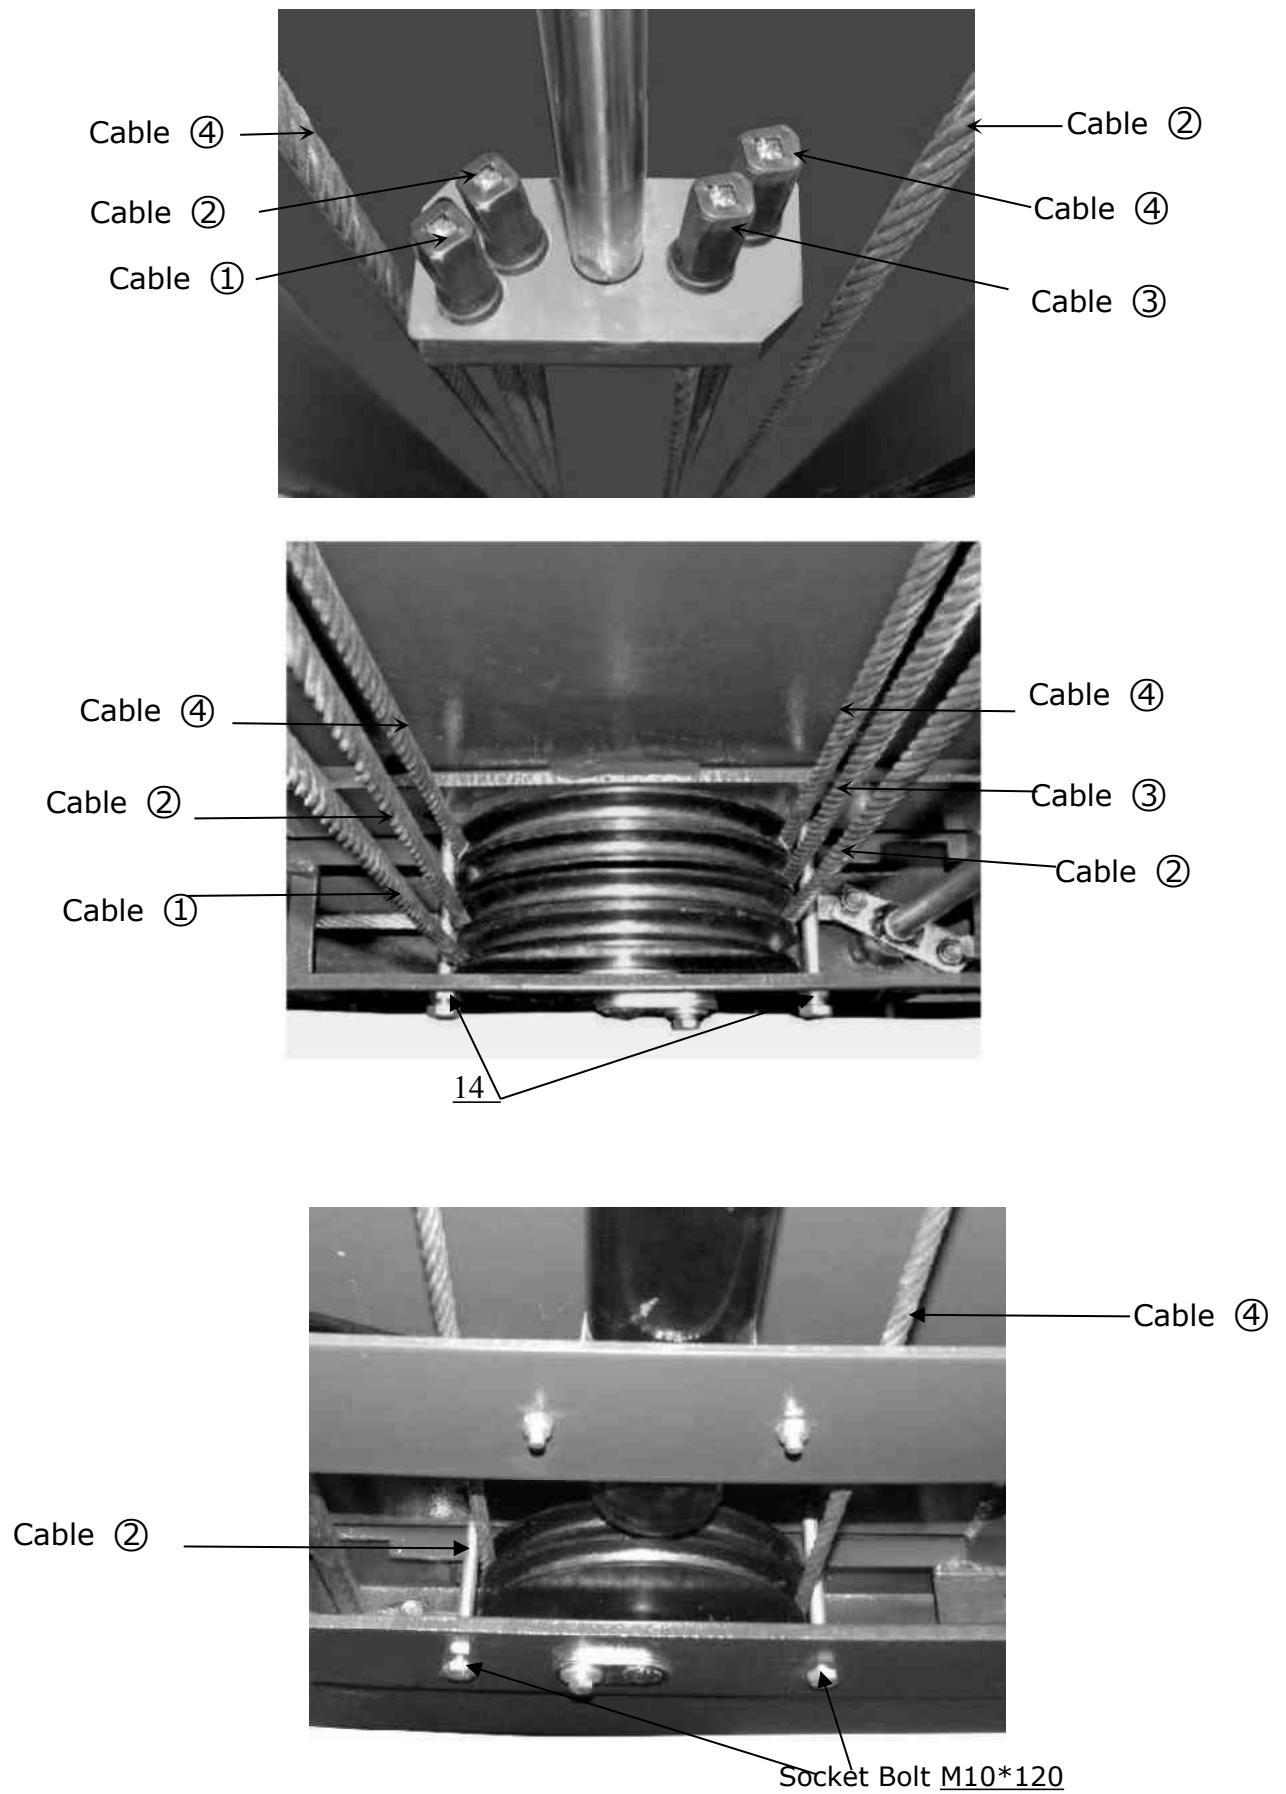

Fig. 30
3. The sketched overview of cables finally installed under platform. (See Fig. 30).